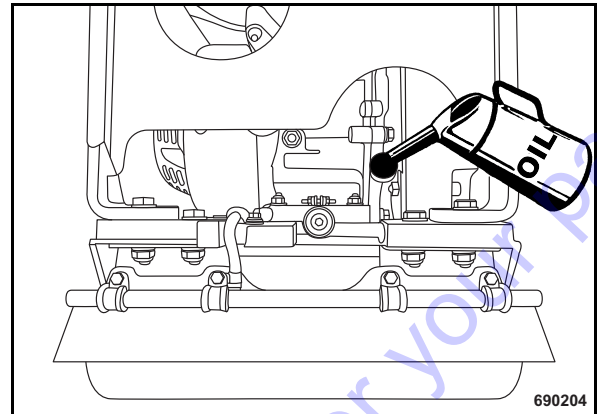

Fig. 52
- Fill in fresh engine oil through the filler opening (Fig. 52).